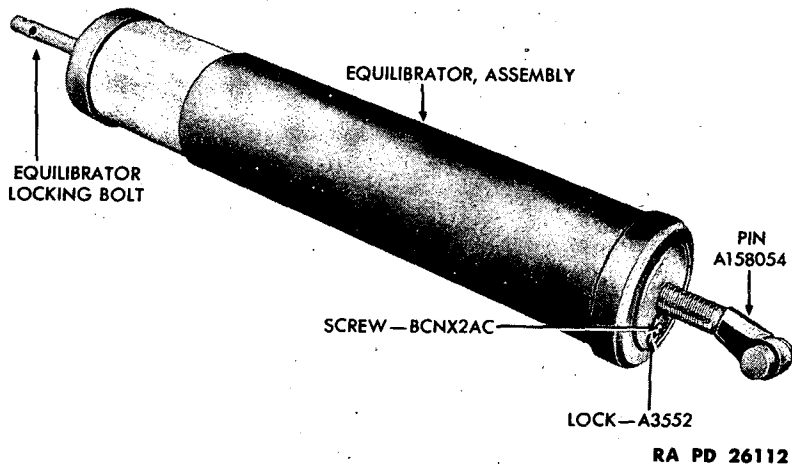

Figure 100—Equilibrator Assembly
(1) The high speed field howitzer equilibrator is practically the same in design and construction as the M1 and M8 Carriage Equilibrator, excepting that it is enclosed in a cylinder assembly (fig. 100).
(2) The M3A3 Carriage Equilibrator is composed of the equilibrator spring, equilibrator barrel, equilibrator cylinder assembly,